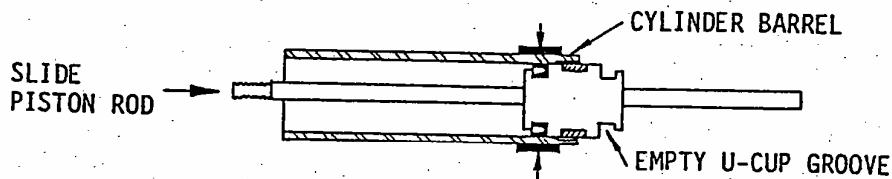

Fig. 7.
2. Push the piston rod to the opposite end of the cylinder so that only the empty U-Cup groove is exposed. If the piston rod is moved too far to the right, the U-Cup first installed will fall into an under cut inside the cylinder barrel and it will be impossible to move the piston rod back to the left without damaging the seal. See Fig. 7.